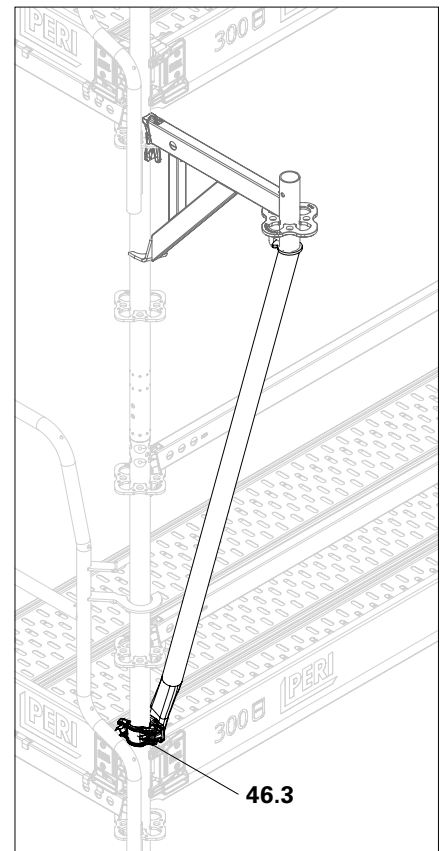

Fig. A6.15d
- The bracket brace is installed. (Fig. A6.15d)